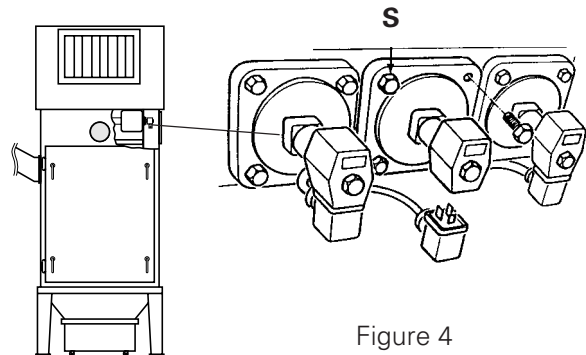

Figure 4
The solenoid valves for jet pulse cleaning are located in the clean air chamber in the fan housing (see the Fig. 4 below) and are accessible by opening the side panel. If a solenoid valve is faulty, it is usually only necessary to clean the upper part of the solenoid housing of the diaphragm. If the fault is not corrected with this operation the solenoid must be replaced completely.
6. Unscrew the screws (**S** - Fig. 4) from the compressed air tank.